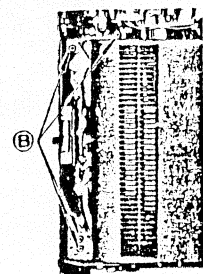

Fig. 8
2. Remove 4 screws (B) shown in Fig. 8.